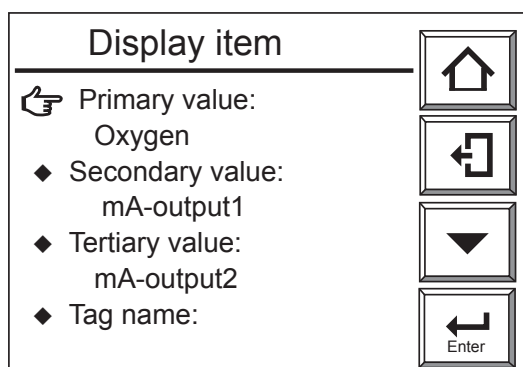
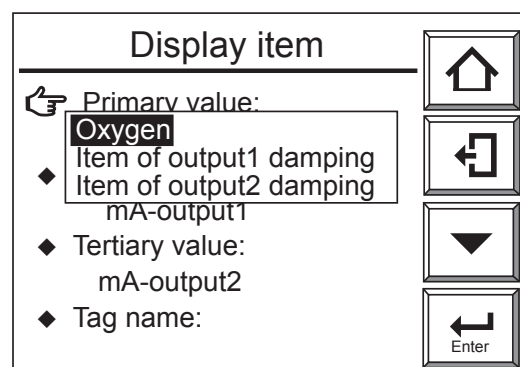

Figure 7.16 Display Item Display
Figure 7.17 Display Item Selection
- (3) In the above Display setup display, select the “Display item”. The Display item display (Figure 7.16) then appears. From this display, select the “Primary value” and press the [Enter] key to display the “Display item” selection display (Figure 7.17).
- (4) Select the Secondary and Tertiary values in the same manner as in the steps above.
- (5) Consult Table 7.1, Display Items, enabling the selection of display items in individual display areas.